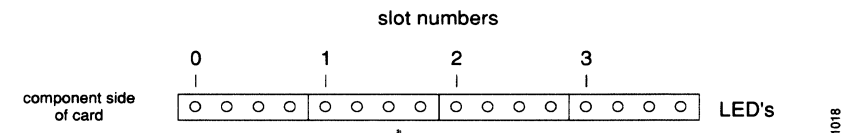

Figure 5-16 CSC-CCTL LED Indications — Edge-on View
Figure 5-16 illustrates which LED will light to indicate the presence of a card in the cBus. The orientation of Figure 5-16 is the same as looking at the CSC-CCTL card installed in the card cage, edge-on, component side up. The numbers above each LED indicate the cBus number.
The following list describes the meanings of the LEDs on the CSC-ENVM card. The LEDs are described from left to right using the orientation seen in Figure 5-16.
- Step 5:*** When the EPROM has been replaced, check for proper jumper settings. The factory default settings shown in Figure 5-16 should match the settings on your card. There are no user-configurable jumpers on the CSC-ENVM card.